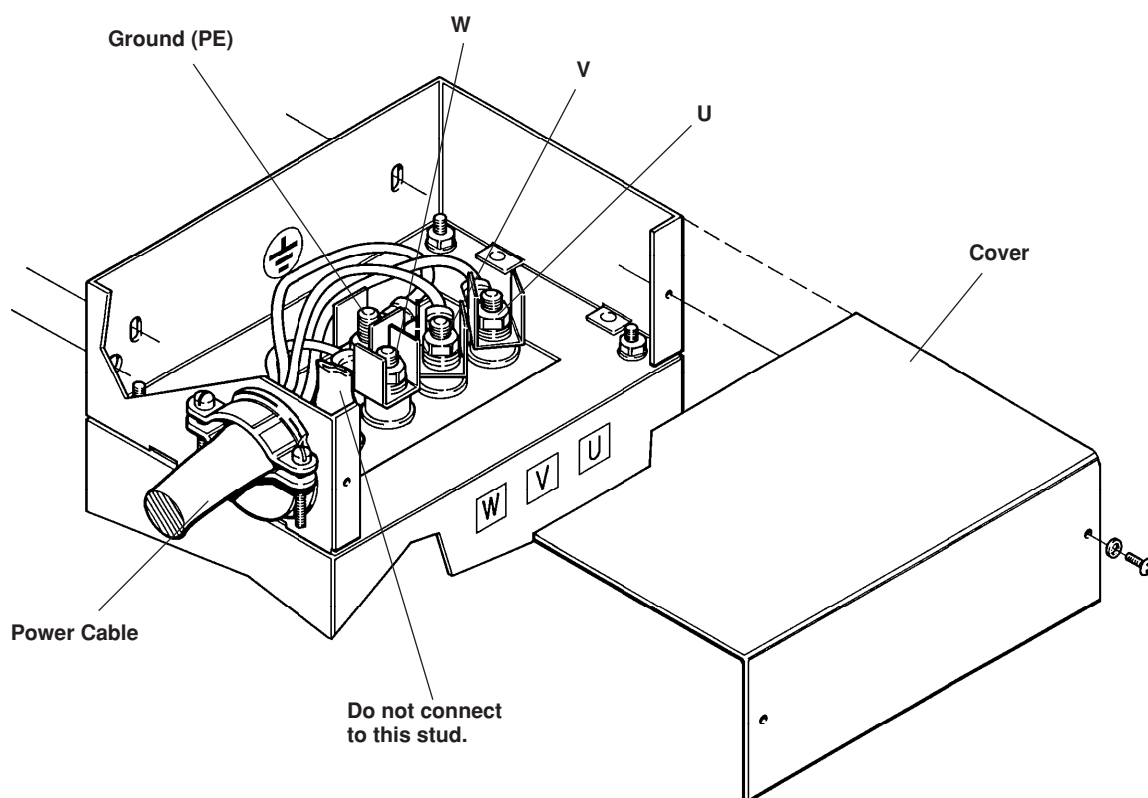

Figure f-1 Power Cable Connections to EMI Filter
1. Locate the EMI filter at the lower right rear of the power supply (see Figure f-1).